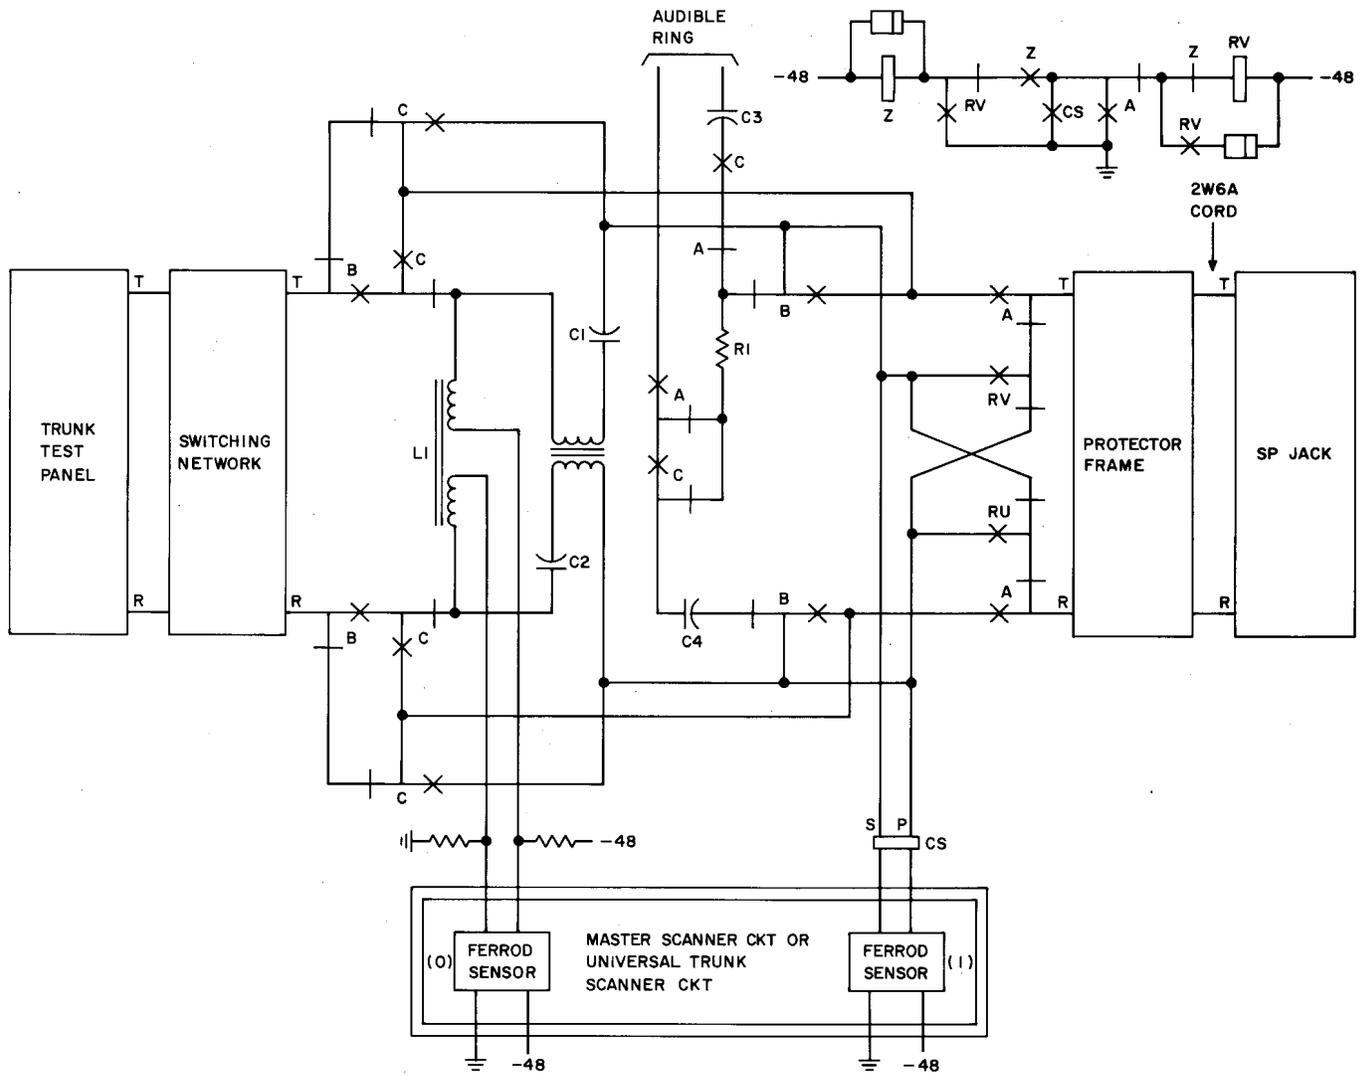

Fig. 1—Incoming Trunk Circuit (SD-2H149)
**3.06** The following is a step-by-step procedure to make the incoming trunk circuit traffic busy and connect it to the TTP (Fig. 1).